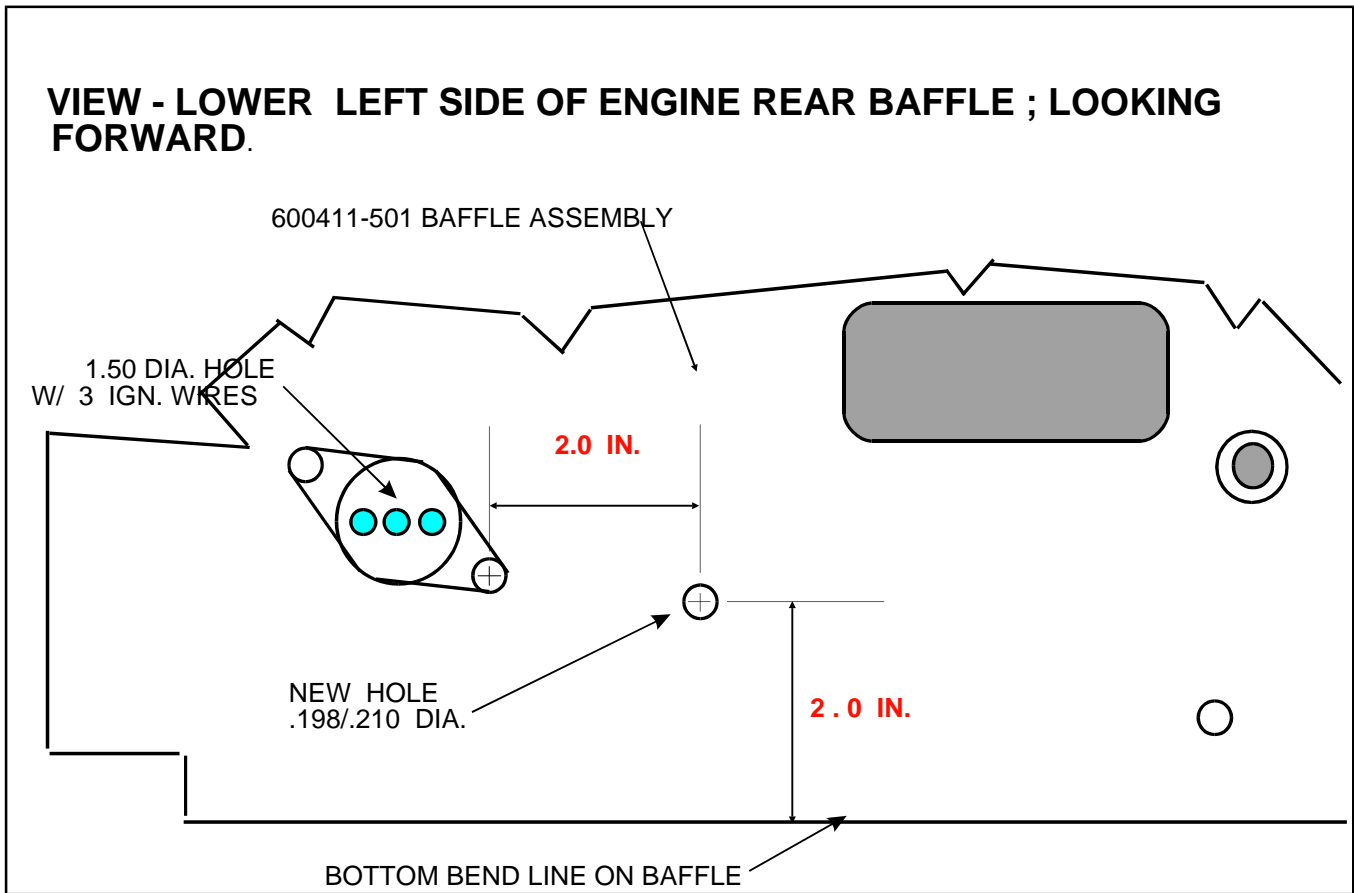

FIGURE 1
2. Refer to Figure 1 to locate and drill the new hole (.198/.210 dia.) to be added to 600411-501 baffle assembly. New hole location does not have to be exactly to the dimensions shown on Figure 1. Deburr hole as needed.